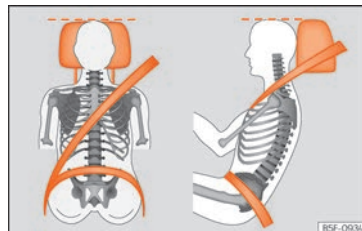

Fig. 3 Correct belt web and head restraint positions
- Adjust the head restraint so that its upper edge is at the same level as the top of your head, or as close as possible to the same level as the top of your head and under no circumstances below eye level. Keep the back of your neck as close as possible to the headrest »» Fig. 3.